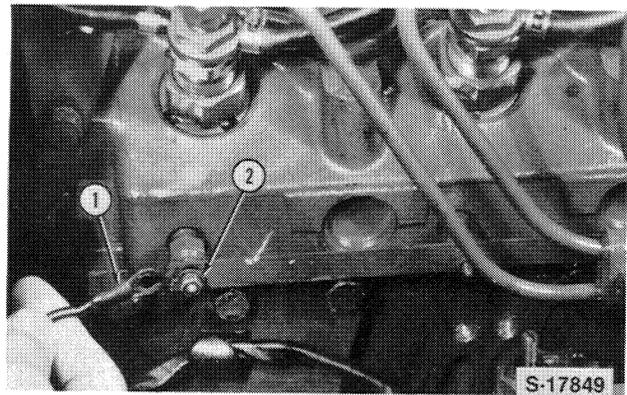

Figure 7
8. Remove the glow plug wire connectors and remove the glow plugs, Figure 7.